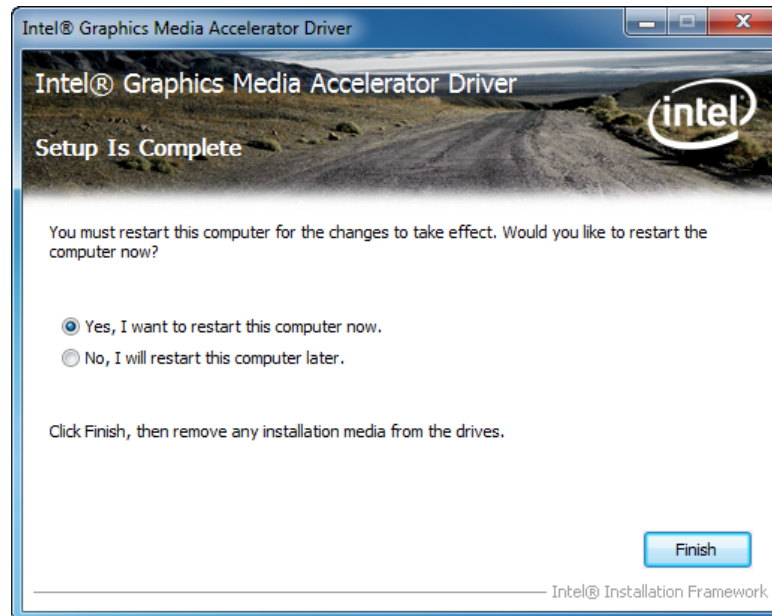

Figure 8-11: Graphics Driver Installation Finish Screen
Step 12: The **Finish Screen** in **Figure 8-11** appears.